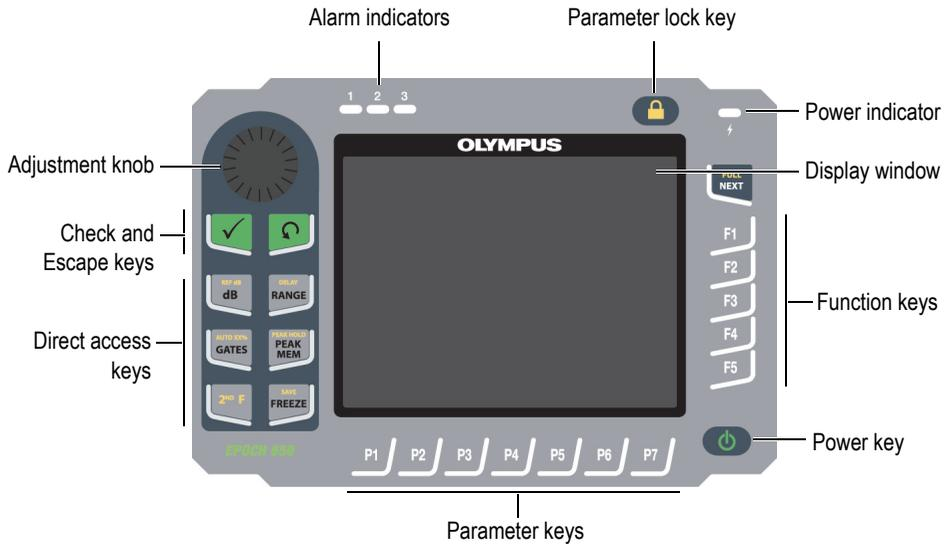
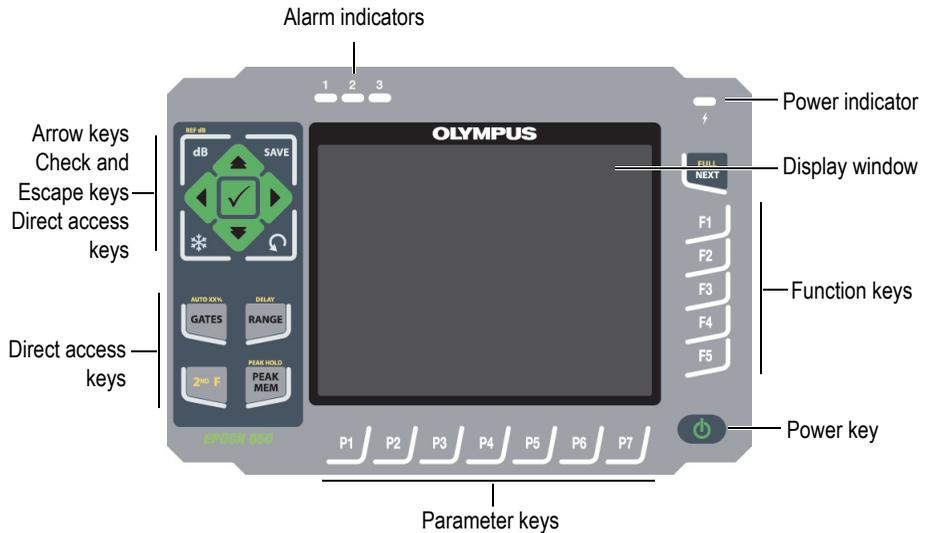
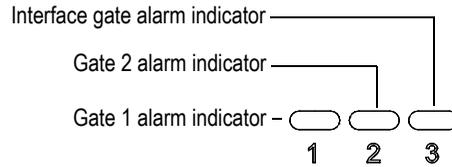

Figure 1-3 The EPOCH 650 – Adjustment knob configuration
Figure 1-4 The EPOCH 650 – Navigation pad configuration
Figure 1-15 Alarm indicators
- Adjustment knob (see Figure 1-3 on page 21)
- Navigation pad (see Figure 1-4 on page 21).
The EPOCH 650 ultrasonic flaw detector provides three alarm indicator lights (see Figure 1-15 on page 33). The indicators are located on the front panel above the display window (see Figure 1-3 on page 21 and Figure 1-4 on page 21).